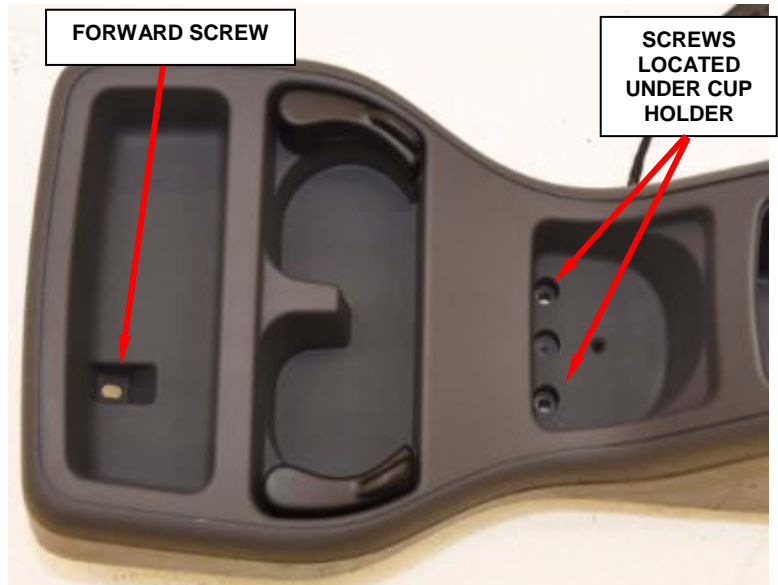

Figure 3 – Console Plate Attachment Screws
2. Remove the forward console mat then remove and save the screw (Figure 3).
3. Remove the cup holder then remove and save the two screws (Figure 3).